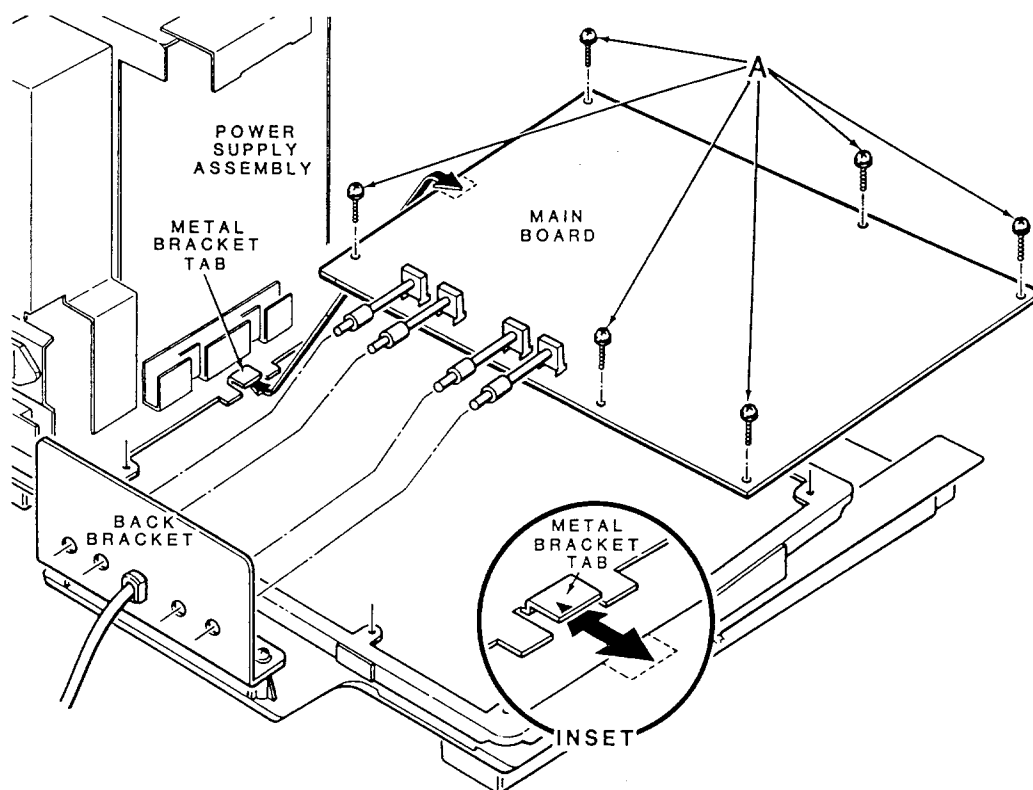

Figure 3-29. Main Board Screws
8. Remove the six 3/8-inch phillips thread forming-screws labeled A that secure the main board to the monitor bottom, as shown in Figure 3-29.
9. Slide the main board toward the front of the monitor until the rear controls are clear of the back bracket. Next slide it to the right (away from the power supply assembly) until it is free from the bracket tab, as shown in the inset of Figure 3-29.